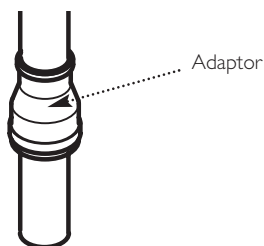
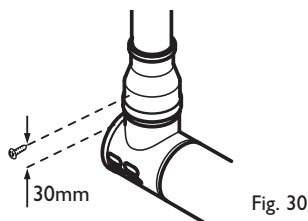

Fig. 31
Fig. 30
9. The  $60\text{Ø}$  exhaust can now be fitted. Slide the adaptor over the plain end of the  $60\text{Ø}$  exhaust (Fig. 31) and engage the exhaust in the terminal. Slide the adaptor down over the spigot. Mark and drill the adaptor, using a 2mm bit, as shown in Fig. 30. Secure the adaptor to the spigot using one of the screws supplied.